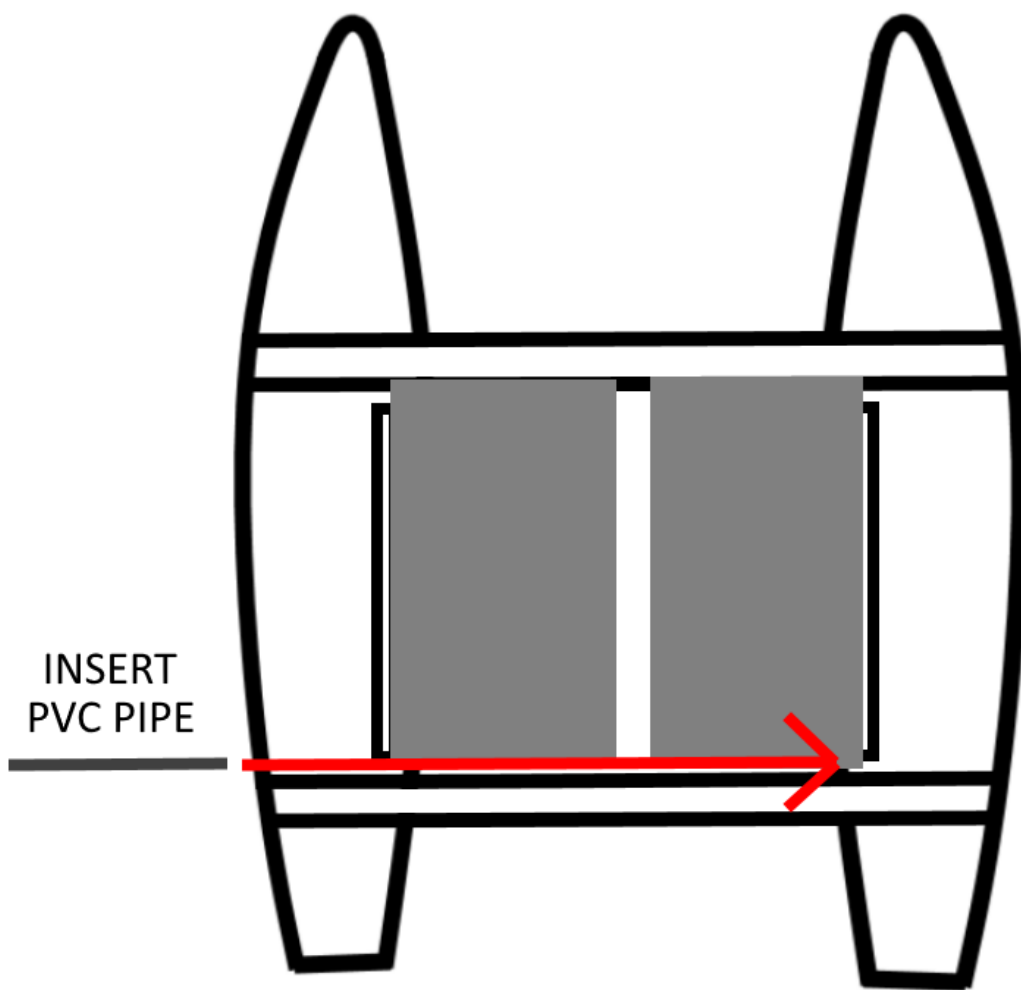

FIGURE 3: Insert PVC pipe into sewn pocket into aft portion of trampoline halves.
Step 4: Insert PVC Pipe into and through sewn pockets in the aft portion of both trampoline halves. See **Figure 3**.